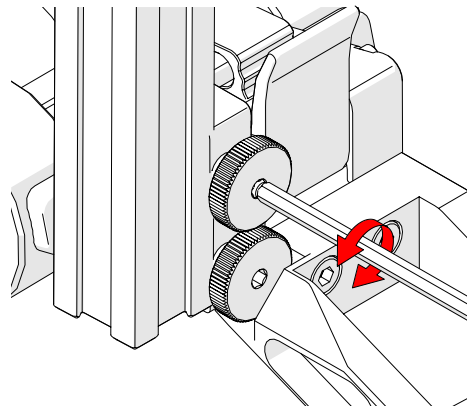

Fig. 37 - Use 3 mm hex driver
4. The 3 mm hex driver may tighten and loosen the knobs should additional strength be required (Fig. 37).